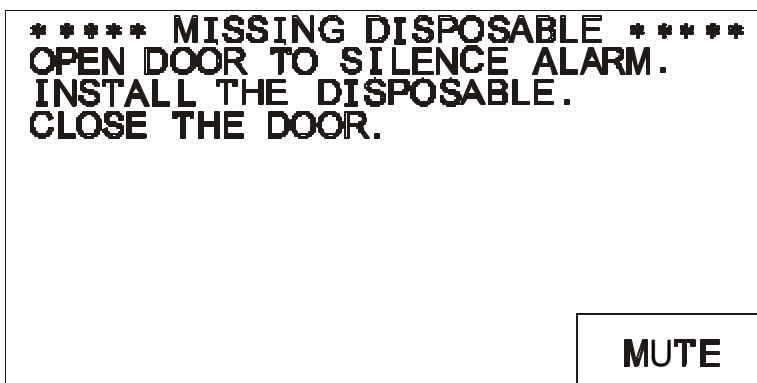

Figure 1. Missing Disposable Set message.
- ▶ If you turn power ON without the disposable set, MISSING DISPOSABLE message and alarm will appear, Figure 1.